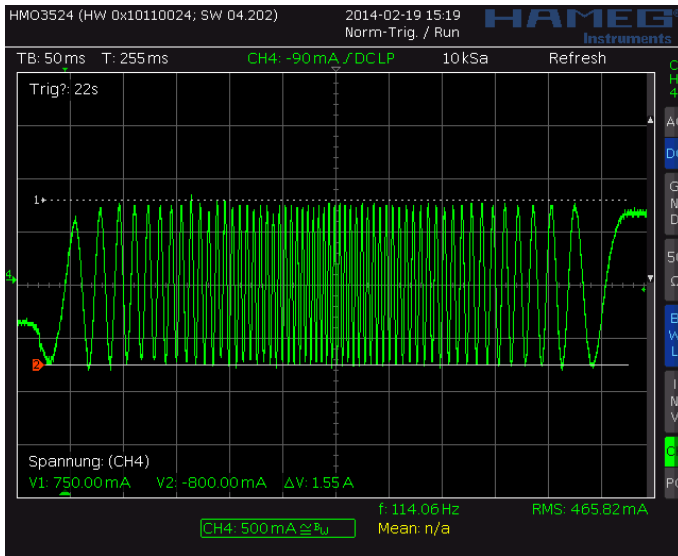
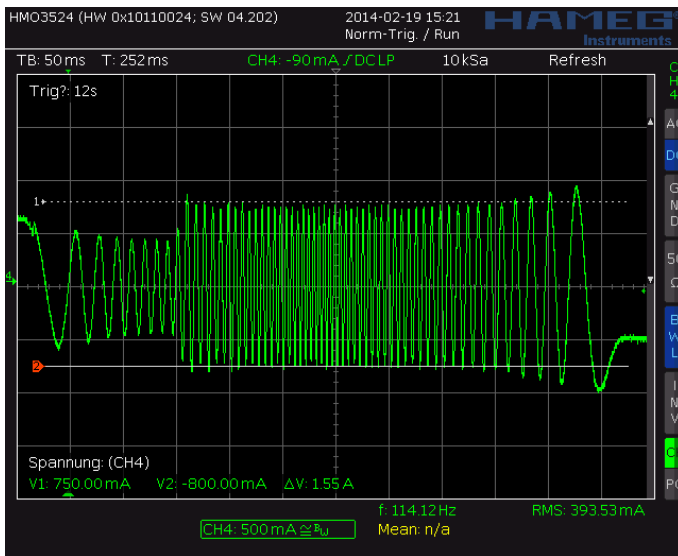
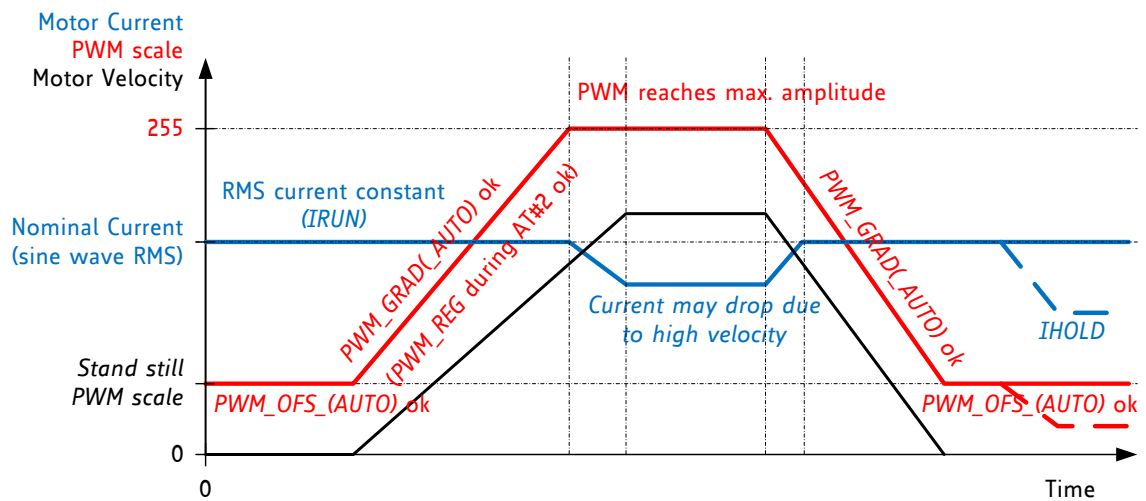

Figure 6.3 Scope shot: good setting for PWM_REG
Figure 6.4 Scope shot: too small setting for PWM_REG during AT#2
Figure 6.5 Successfully determined PWM_GRAD(AUTO) and PWM_OFs(AUTO)
In stealthChop voltage PWM mode, the autoscaling function ($pwm_autoscale = 1$, $pwm_auto_grad = 1$) regulates the motor current to the desired current setting. Automatic scaling is used as part of the automatic tuning process (AT), and for subsequent tracking of changes within the motor parameters. The driver measures the motor current during the chopper on time and uses a proportional regulator to regulate PWM_SCALE_AUTO in order match the motor current to the target current. PWM_REG is the proportionality coefficient for this regulator. Basically, the proportionality coefficient should be as small as possible in order to get a stable and soft regulation behavior, but it must be large enough to allow the driver to quickly react to changes caused by variation of the motor target current (e.g. change of VREF). During initial tuning step AT#2, PWM_REG also compensates for the change of motor velocity. Therefore, a high acceleration during AT#2 will require a higher setting of PWM_REG . With careful selection of homing velocity and acceleration, a minimum setting of the regulation gradient often is sufficient ($PWM_REG=1$). PWM_REG setting should be optimized for the fastest required acceleration and deceleration ramp (compare Figure 6.3 and Figure 6.4). The quality of the setting PWM_REG in phase AT#2 and the finished automatic tuning procedure (or non-automatic settings for PWM_OFS and PWM_GRAD) can be examined when monitoring motor current during an acceleration phase Figure 6.5.